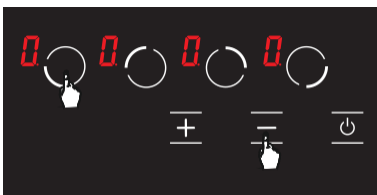

Figure 21
2. Press front left hob selection key (**0**) and minus key (**-**) simultaneously. (see Fig. 21) You will hear a short warning signal at this time. Then, remove your fingers from the Hob control panel.